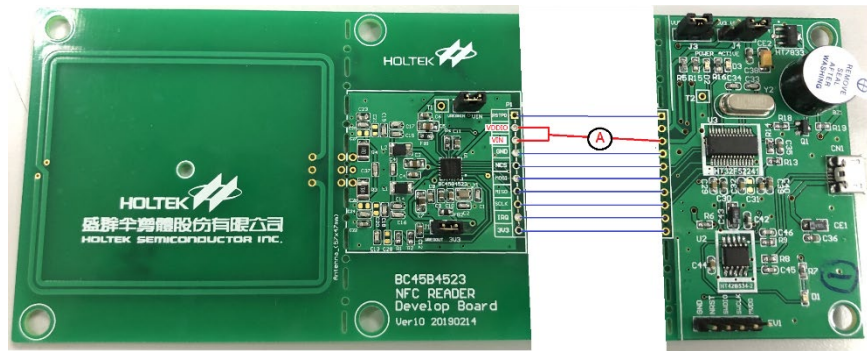

Figure 14
- (1) Use J3 to select the power source for the BC45B4523 TVDD (RF transmitter power): HT7833.
- (2) Use J4 to select the power source for the VDD (MCU VDD / bridge IC VDD): HT7833 3.3V output.
- (3) **Current Measurement**
- a) Short connect the BC45B4523's VDD (VDDIO) and VIN, then connect to the HT7833 output. Other signals are connected normally as shown in Figure 14.